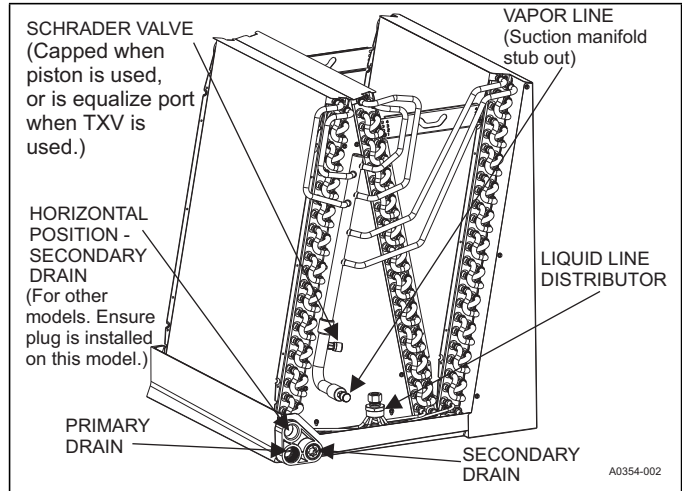

FIGURE 2: Component Location - Coil CU
4. Remove Schrader valve cap from Schrader valve stem on the vapor line shown in Figure 2.
3. Remove and discard the Schrader valve cap from Schrader valve stem on the vapor line shown in Figure 2.
7. Install the TXV equalizer line onto the vapor line by hand tightening the 1/4" SAE coupling nut to the equalizer port, and apply an additional 1/3 turn to seal. See Figures 2 and 6.